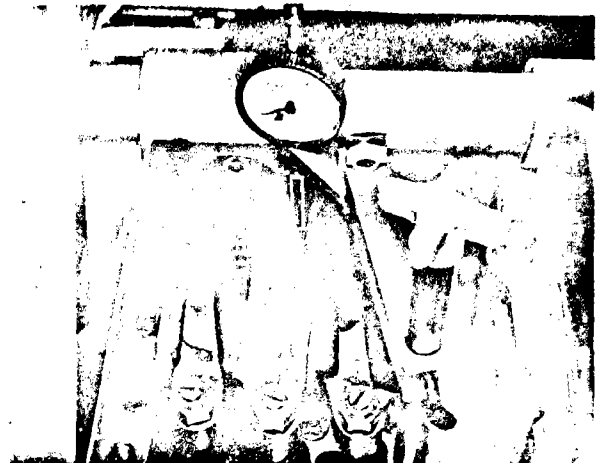

Fig. 2-62. (K21920). Dial indicator in place — extension in contact with plunger
**Note:** Any valve set position may be used as a starting point when adjusting the injectors, crossheads and valves. Determine which of the two (2) cylinder indicated have both valves closed (rocker levers free). This cylinder is in position for injector plunger travel, crosshead and valve adjustment.
2. Set up 3375007 Indicator Support on the rocker lever housing, of the cylinder selected, with the indicator extension 3375005 on the injector plunger top. Fig. 2-62.